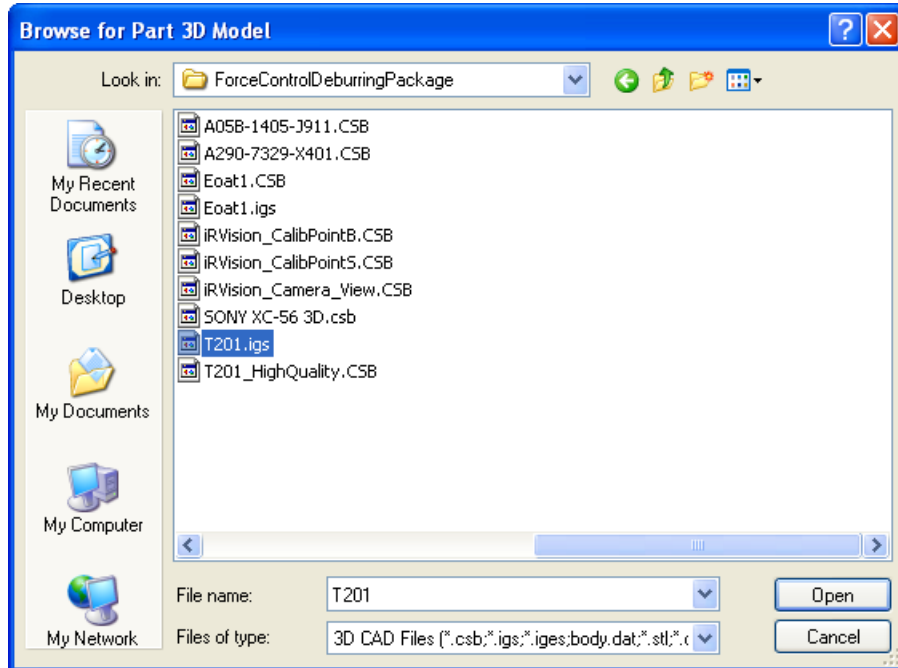

Fig. 3.2(a) Adding a part
- 1 On Cell Browser, right-click "Parts". From the displayed right-click menu, select "Add Part" → "CAD File". On the "Browse for Part 3D Model" window (Fig. 3.2(a)), select the CAD model (IGES format data) of the workpiece to be machined. In the following description in this manual, a part named "T201" is used as an example.